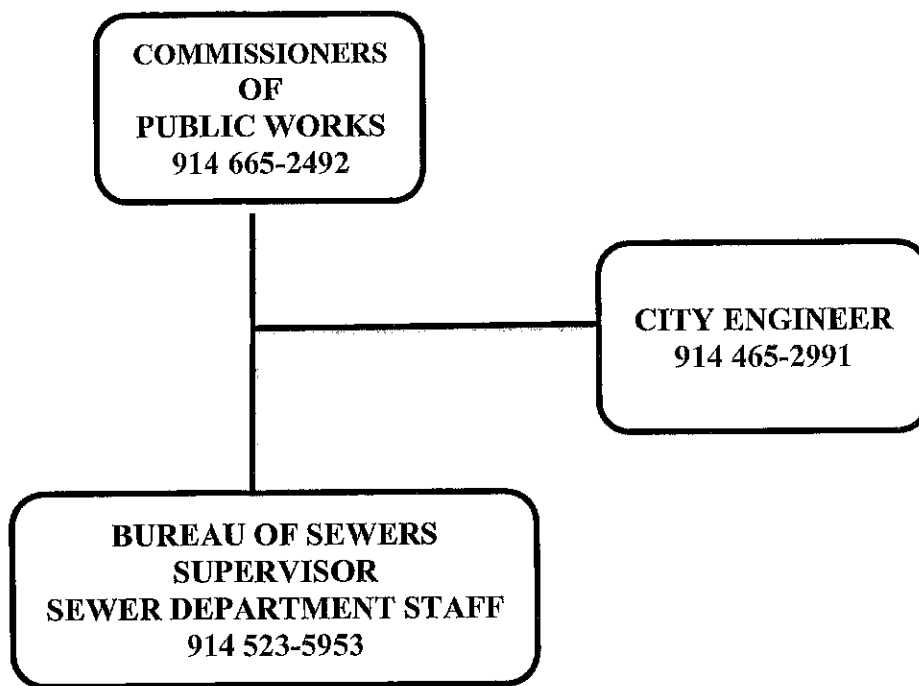

Figure 1 - City of Mount Vernon Bureau of Sewers
The City of Mount Vernon's Bureau of Sewers, under the Department of Public Works, is responsible for all aspects of our wastewater collection system with the exception of treatment. The Bureau has a staff of six (6) full time operation and maintenance positions. Contractors are used for some maintenance activities and for emergency support. Figure 1 shows the organizational structure of the Department of Public Works, Bureau of Sewers: